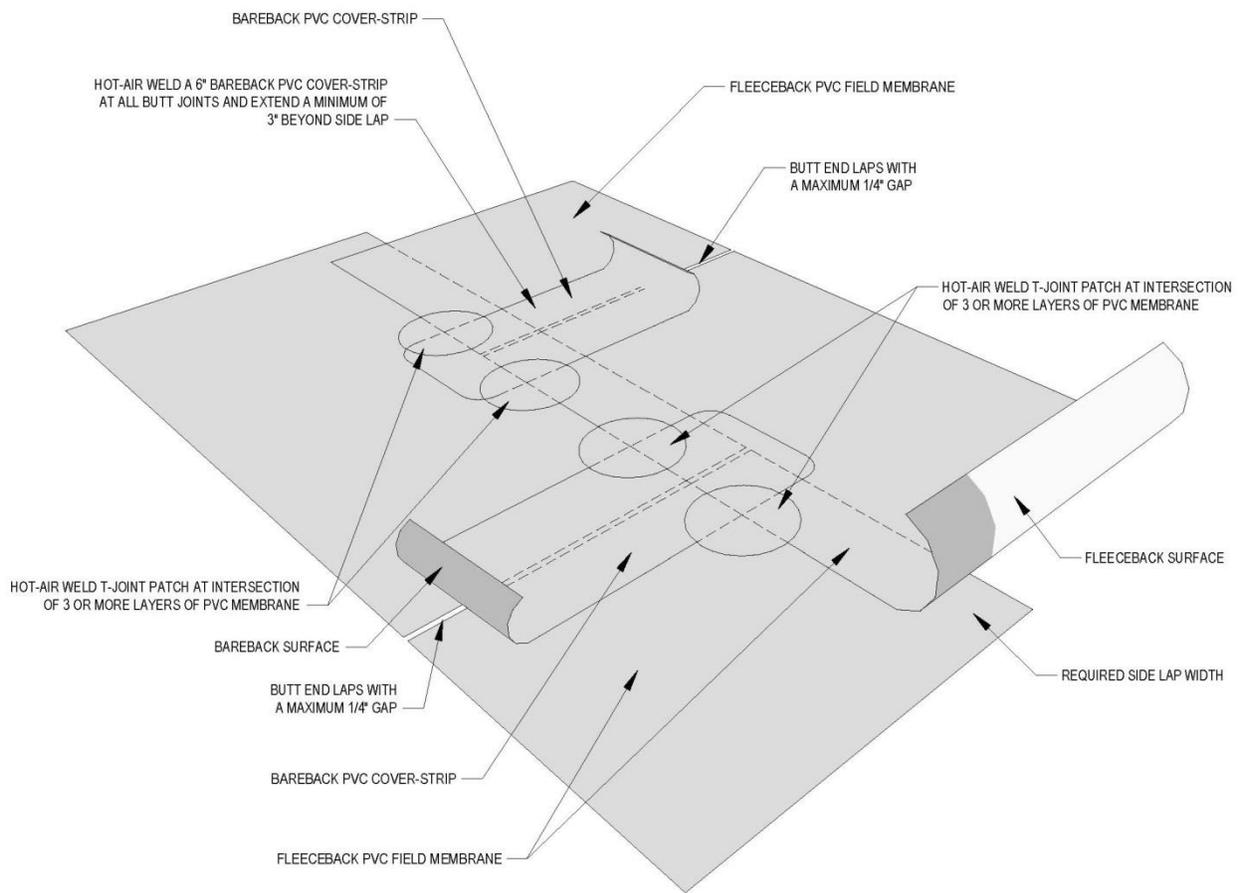

Figure 4.1b Fleece-backed PVC Field Membrane Side And End Laps
- Adhered fleece-backed membrane end-laps shall be butted together and a 6 in membrane coverstrip shall be welded over the butted joint. Refer to Figure 4.1b.